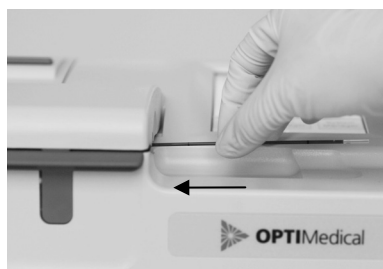

Fig. 5-27 Attach Capillary
- When using capillary tubes, remove the red syringe adapter and push the tube firmly into the fillport (Fig. 5-27).